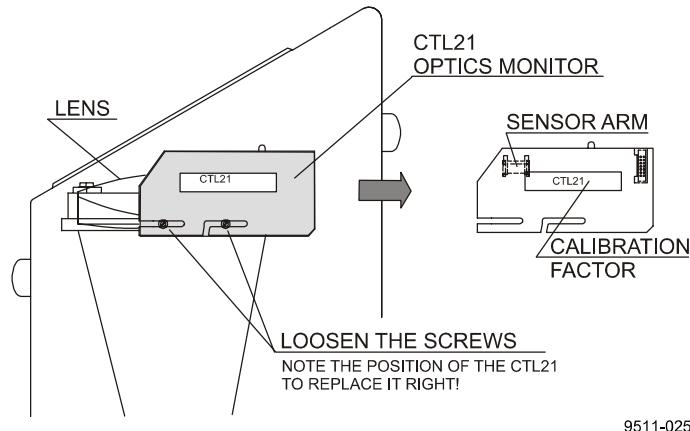

Figure 35 Removing the Optics Monitor
3. Loosen the two screws (Figure 35 below) with a screwdriver. (The optics monitor ribbon cable remains attached to section Optical Subassembly CTB22 on page 74.)
1. Fasten the Optics Monitor CTL21 to the Ceilometer with two screws (Figure 35 above). The previous horizontal position of the CTL21 is a good estimate of the correct position. (The Sensor Arm of the Optics Monitor should be about in the middle of the lens.)